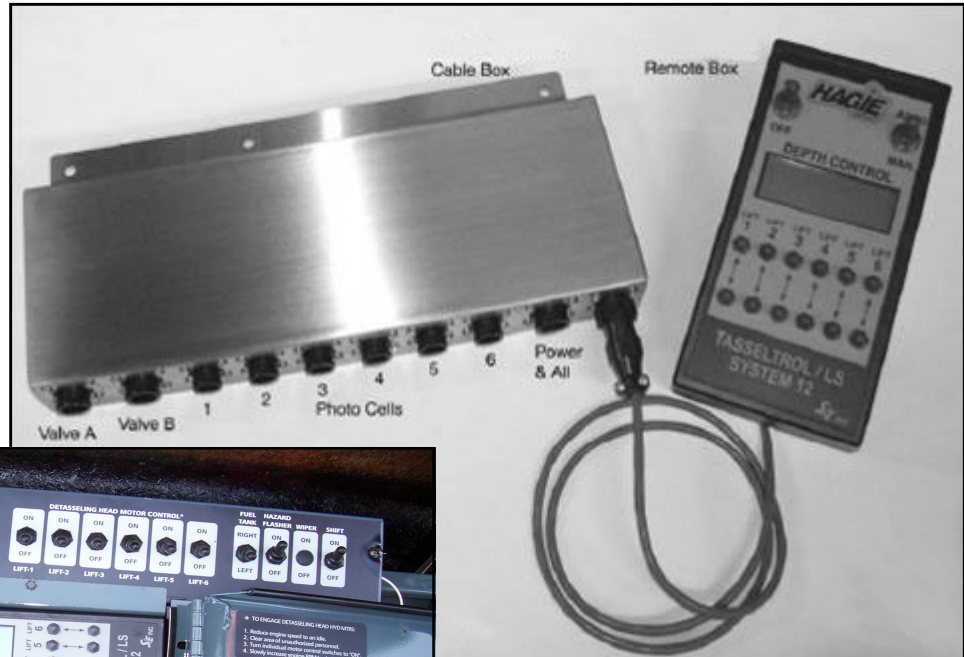
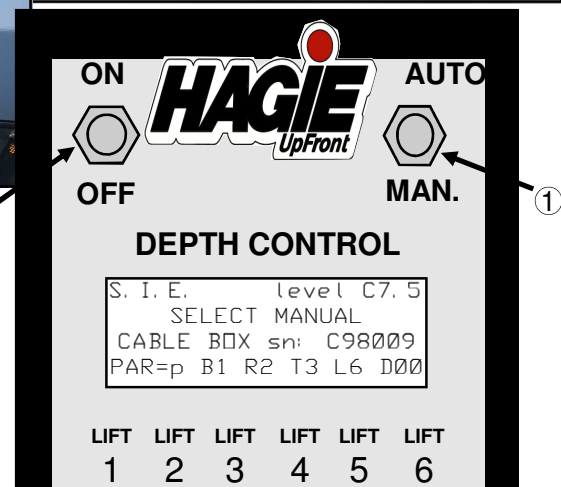

FIG. 5.31
FIG 5.32
Select **AUTO** by placing the **AUTO/ MAN.** switch (fig. 5.32, item 1) in the **AUTO** position. Now turn on the **DEPTH CONTROL** (fig. 5.31) by placing the **ON/OFF** switch (fig. 5.32, item 2) in the **ON** position.